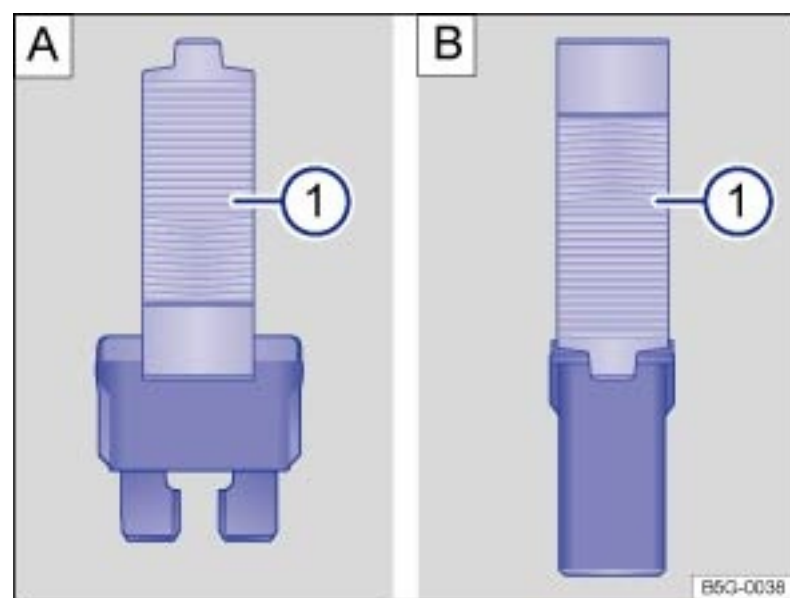

Fig. 223 Removing or installing a blade fuse with the plastic tweezers: : Blade fuse. : JCASE® fuse.
- ▶ Depending on the type of fuse, slide the tweezers → Fig. 223   ① or → Fig. 223  ① onto the fuse from the side.